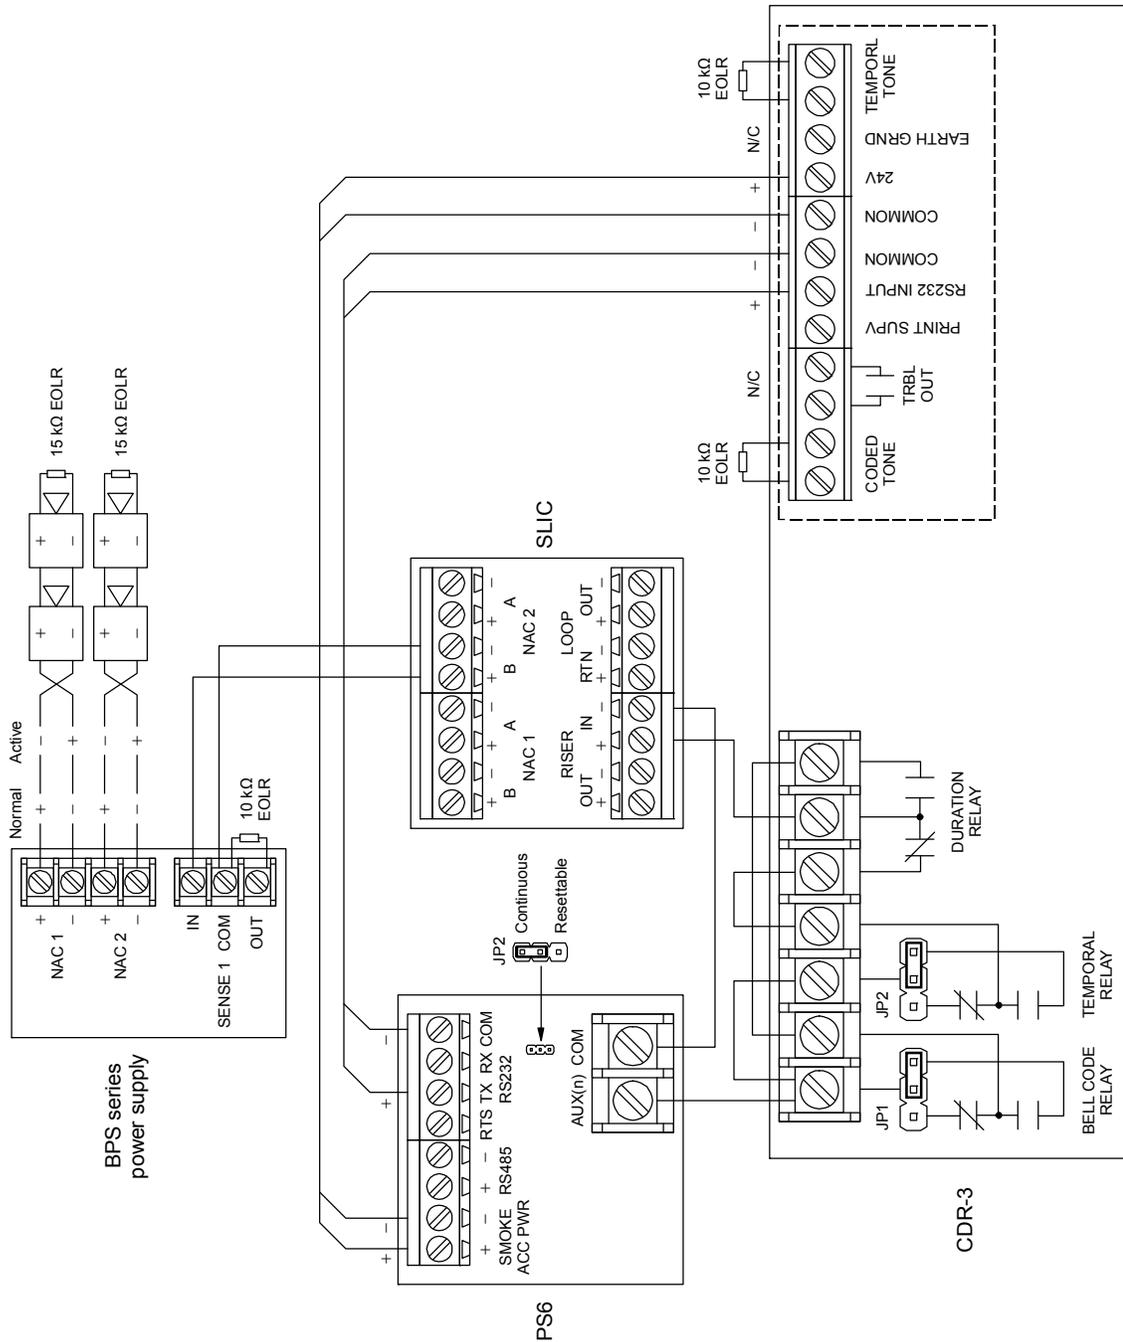

Figure 4-3: Typical CDR-3 application wiring diagram
6. Wire the CDR-3 as shown in Figure 4-3.